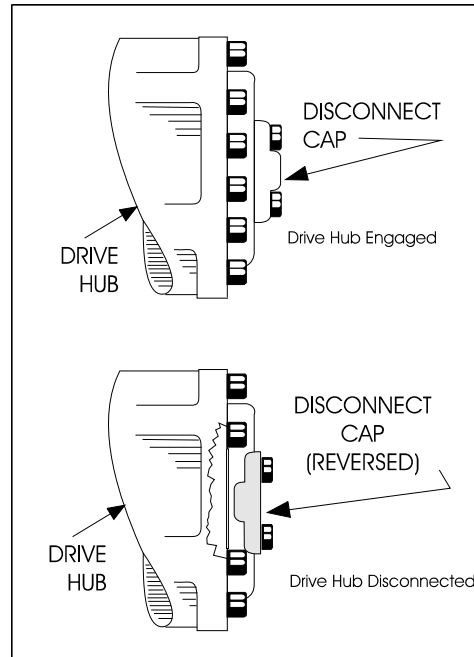

Figure 4-4. Drive Disconnect Hub
3. Disconnect drive hubs by inverting disconnect cap. Refer to Figure 4-4., Drive Disconnect Hub.
If it becomes necessary to lift the machine using an overhead or mobile crane, it is very important that the lifting devices are attached only to the designated lifting eyes, and that the turntable lock pin is engaged. (See Figure 4-4. Lifting Chart.)